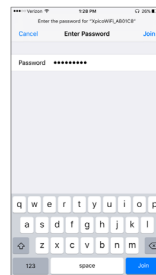

Figure 7: Network Security Password
4. After clicking Connect, enter “xpicowifi” in lower case as the network security password. Click on Join button to complete the connection. See Figure 7.